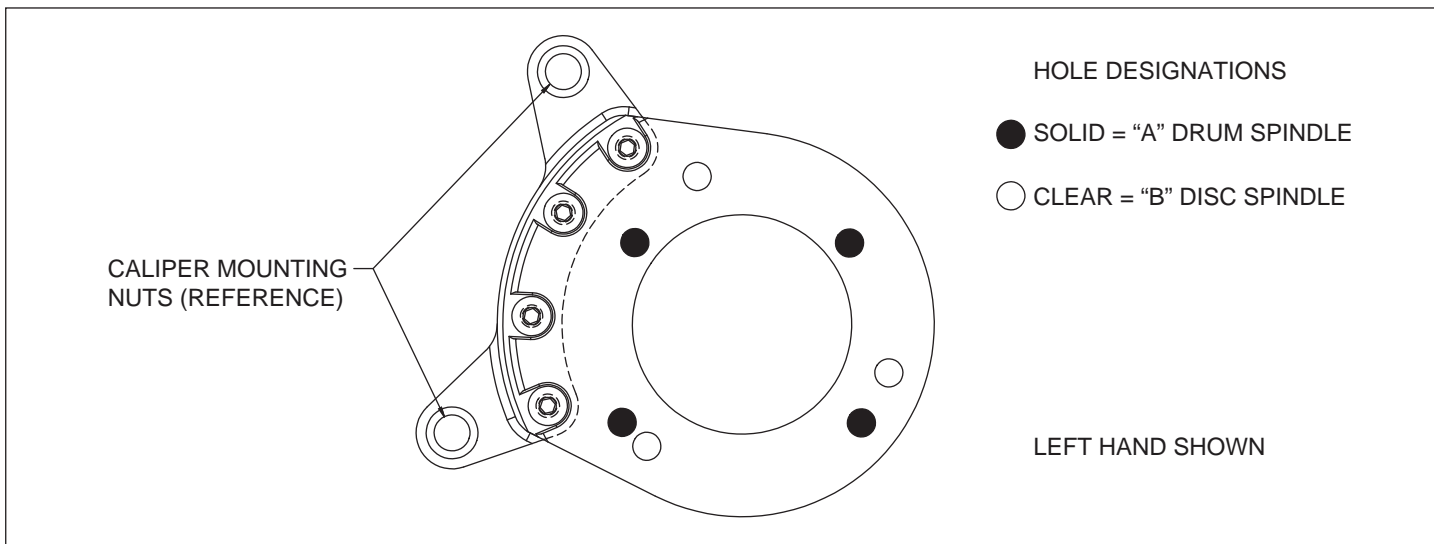
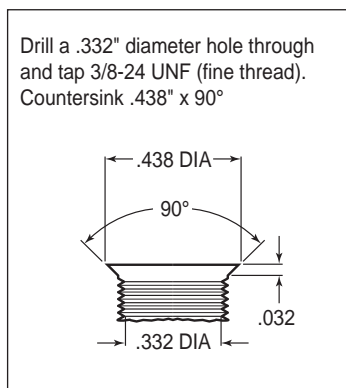
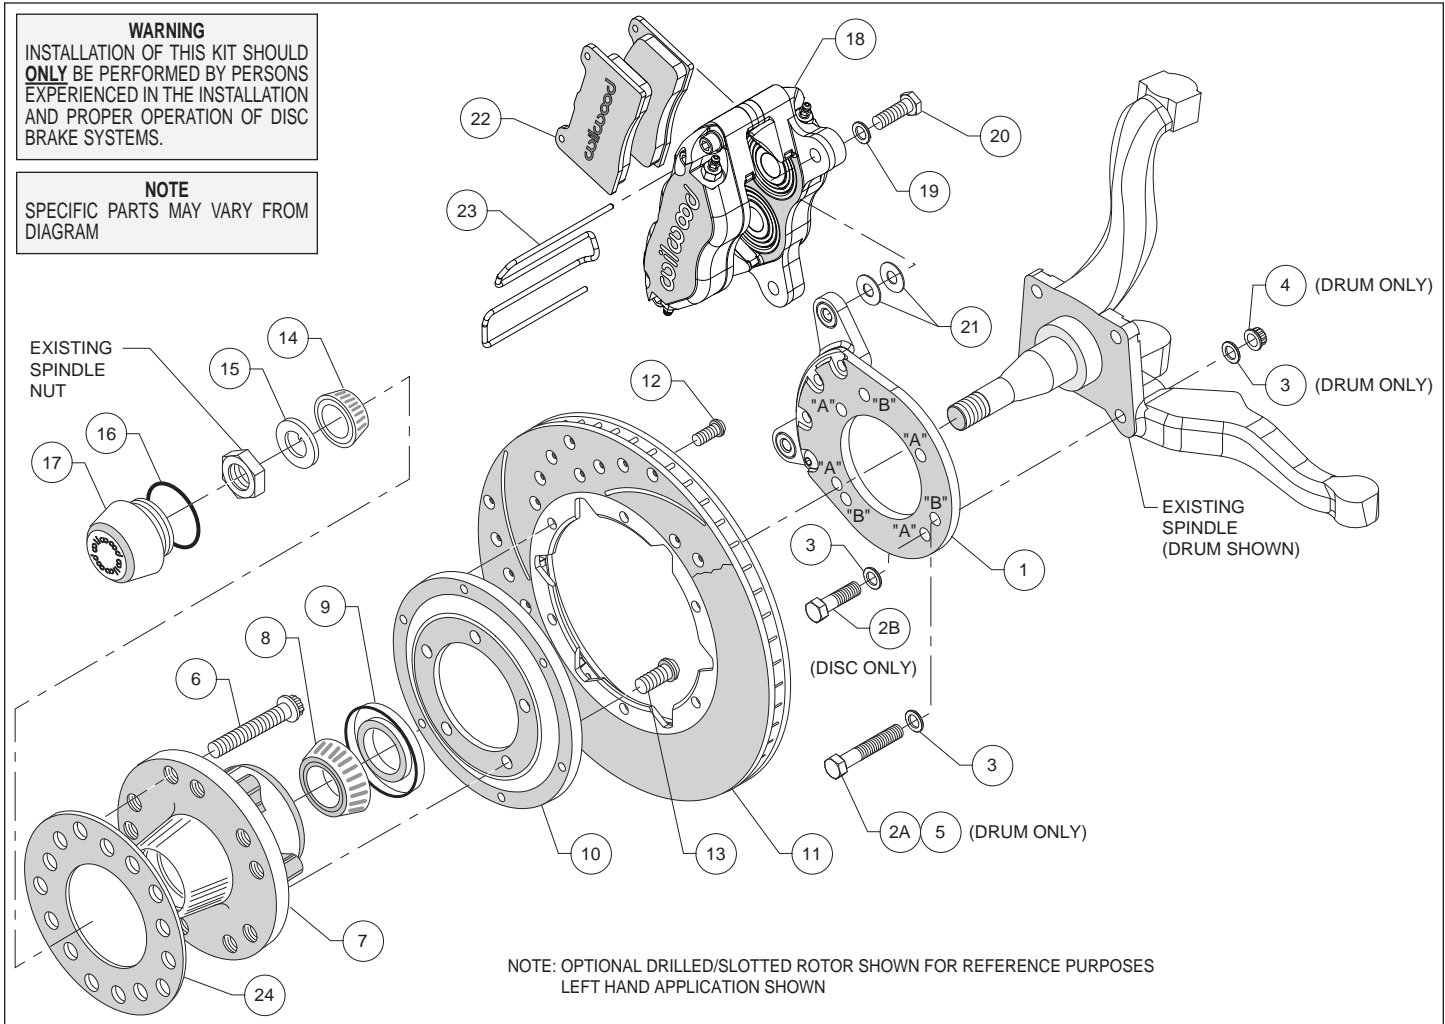
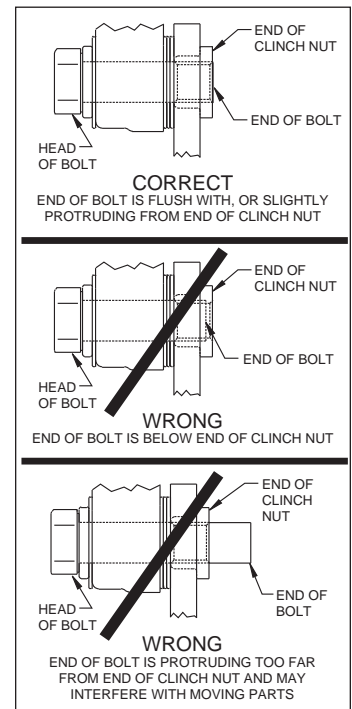

Figure 1. Wilwood Caliper Mounting Bracket
Figure 2. Drill and Tap Detail
Figure 4. Typical Installation Configuration
Figure 5. Clinch Nut Engagement Diagram
This kit has been designed for use with both the disc brake or the drum brake configuration of vehicle. The only difference is in how the Wilwood caliper mounting bracket is installed. The same bracket is used for both configurations; the disc brake version utilizes three mounting holes while the drum brake application uses four mounting holes (see Figure 1). For your convenience we have supplied bolt kits for both applications (see parts list and Figure 4 as necessary). Use the bolt kit that is applicable to your vehicle and disregard the other one.
NOTE: This modification should be performed by a qualified machinist and completed before assembly of the Wilwood disc brake kit begins. Using the caliper mounting bracket as a template (refer to Figure 1 as necessary), locate and verify the three original holes on the spindle that need to be modified. Drill a .332" diameter hole through all three holes, then tap 3/8-24 UNF (fine thread). Countersink the holes to .438" diameter x 90°, as shown in Figure 2.
Assembly Instructions (numbers in parenthesis refer to the parts list, and Figure 4 on the preceding pages): **CAUTION:** All mounting bolts must fully engage clinch nuts. Be sure to check that all bolts are either flush or protruding through flanged side of clinch nut after shimming, Figure 5.
•**NOTE:** This kit uses the same mounting bracket (1) for both the drum and disc brake spindles. The drum version, Photo 1, uses four mounting bolts (designated "A"), while the disc version, Photo 2, uses three (designated "B"). Refer to Figures 1 and 24 for the basic installation position of the bracket and the "A" and "B" reference designations (not physically marked on the brackets).
For Drum Spindle: Align bracket, using the four "A" holes, to the face of the spindle and attach using bolts (2A and 5), washers (3), and lock nuts (4), as shown in Figure 4. Ensure that the flanged heads of the clinch nuts in the bracket are facing outboard, Photo 1. Torque nuts to 30 ft-lb.
For Disc Spindle: Align bracket, using the three “B” holes, to the face of the spindle and attach using bolts (2B) and washers (3), as shown in Figure 4. Finger tighten. Ensure that the flanged heads of the clinch nuts in the bracket are facing outboard, Photo 2. Remove bolts one at a time, apply red *Loctite*® 271 to threads, and torque to 40 ft-lb.
- Orient the rotor (11) and the rotor adapter (10) as shown in Figure 4 and Photo 5. Attach the rotor to the adapter using bolts (12). Using an alternating sequence, apply red *Loctite*® 271 to the threads, and torque to 25 ft-lb.
- Mount the adapter/rotor assembly (10/11) to the hub (7) using bolts (13), as shown in Figure 4 and Photo 6. Using an alternating sequence, apply red *Loctite*® 271 to the threads, and torque to 55 ft-lb.
- Pack the small outer bearing cone (14) with high temperature disc brake bearing grease and install into hub (7). Slide the hub/rotor assembly onto the spindle. Secure using spindle washer (15) and OEM spindle nut, Photo 7. Adjust bearings per OEM specifications. Install saved OEM nut lock (if any) and a new cotter pin (not included).
- Screw dust cap (17) into hub (7), Photo 8. Friction created by the o-ring (16) on the dust cap keeps it from unscrewing. **NOTE:** The O.D. of the existing OEM spindle washer may be larger than the I.D. of the dust cap not allowing it to seat against the hub face. Therefore, use the spindle washer (15) supplied with the kit instead of the OEM washer.
- NOTE:** Please reference the caution statement at the beginning of the assembly instructions. Mount the caliper (18) onto the caliper mounting bracket (1) using bolts (20) and washers (19), as shown in Figure 4. Initially place two .035” thick shims (21) on each bolt between the caliper and the bracket, Photo 9. Temporarily tighten the mounting bolts and view the rotor (11) through the top opening of the caliper. The rotor should be centered in the caliper, Photo 10. If not, adjust by adding or subtracting shims between the bracket and the caliper. Always use the same amount of shims on each of the two mounting bolts. **NOTE:** The end of each bolt must be flush with or slightly protruding from the head of the clinch nut, as shown in Figure 5. If necessary place spare shims between washer (19) and caliper